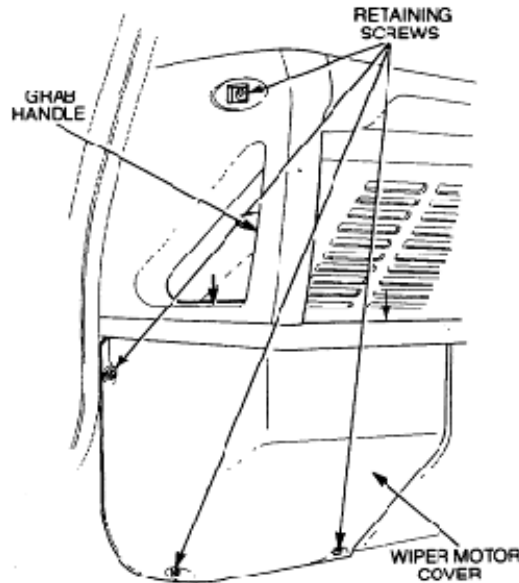

Figure 170 Left-side Grab Handle Removal
- d. Remove the screws securing the handle and wiper motor cover (Figure 170).
- d. Remove the screws securing the handle and wiper-motor cover (Figure 170).